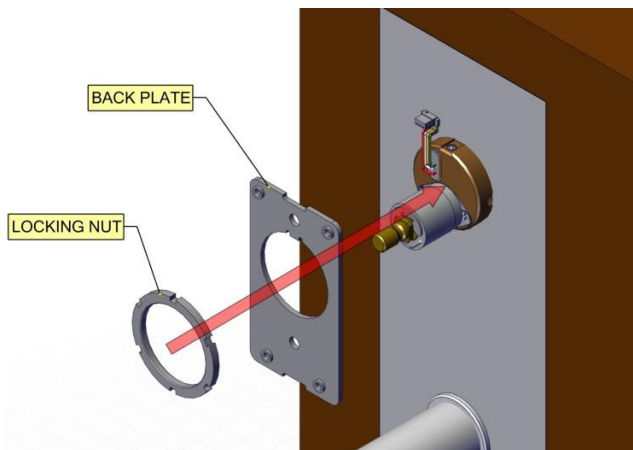
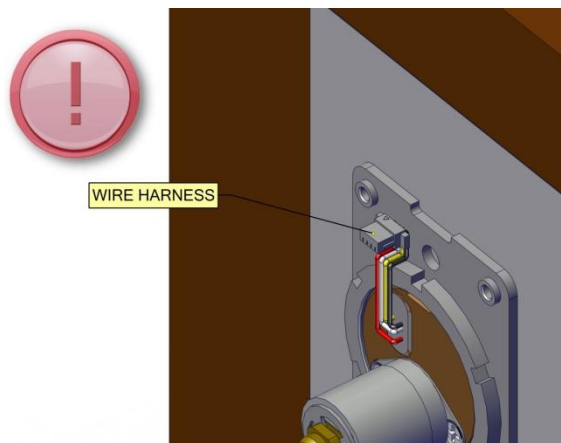

Fig. 8
Fig. 9
**Step 4:** Add back plate and locking nut (Fig. 8). **Warning:** Wire harness goes through plate (Fig. 9).